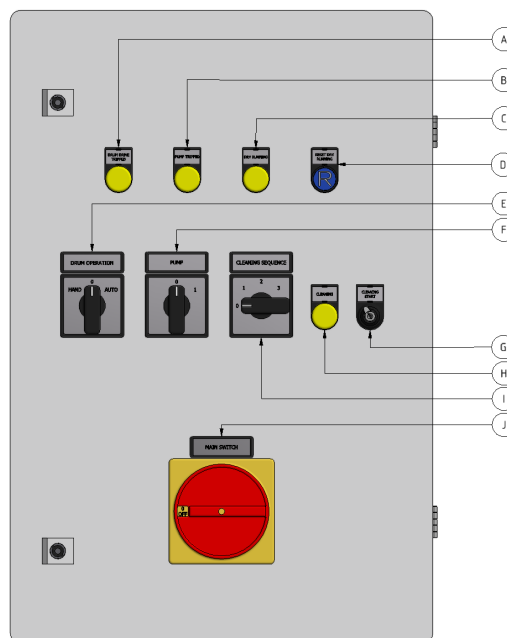

Figure 6.1 Hydrotech control cabinet type PFC (option)
2. Turn the pump switch to the OFF (0) position (see F in Figure 6.1).
3. Set the main power switch to the ON (1) position (see J in Figure 6.1).
4. Set the mode selector to the HAND position (see E in Figure 6.1).
Turn the mode selector to select the operating mode (see E in Figure 6.1).